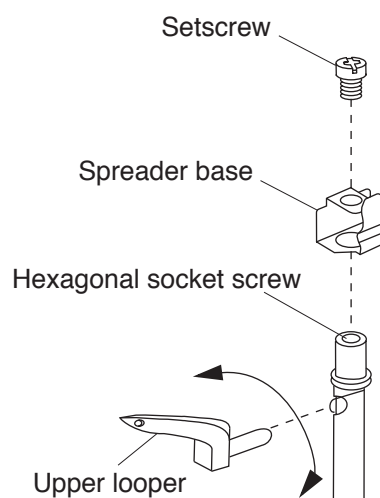

Figure 3
3. Loosen the hexagonal socket screw and adjust the clearance between the loopers by moving the upper looper to the back or front as shown in Figure 3.